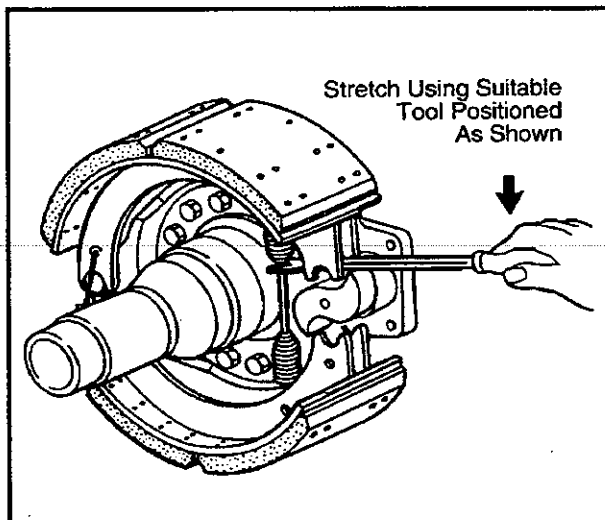

Figure 14—Engage Spring Rod
8. Position I lever or a suitable tool with notch to engage spring rod. (See Figure 14—Engage Spring Rod.)